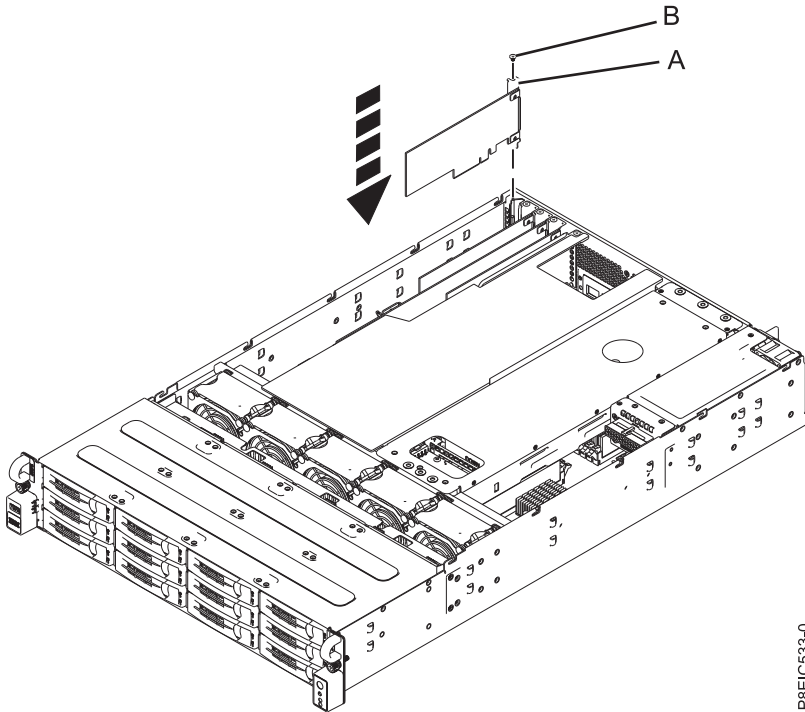

Figure 29. Installing the (FC EC3S) PCIe Gen3 SAS/SATA RAID adapter (A) and screw (B)
- e. Insert the (FC EC3S) PCIe Gen3 SAS/SATA RAID adapter (A) into the system backplane PCIe adapter slot, aligning it properly and inserting it fully into the slot.
- f. Insert the retaining screw (B) and tighten it to secure the PCIe adapter in the system, as shown in Figure 29 on page 30.